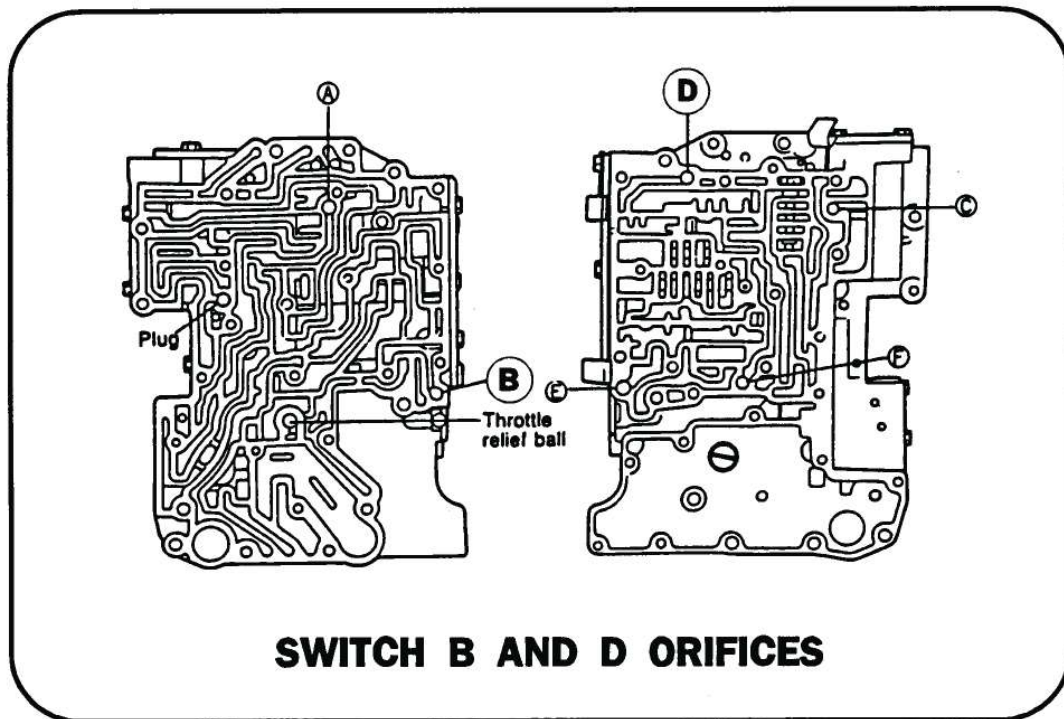

Figure 2.
3. Move orifice **B** (servo release orifice) to the orifice **D** (direct clutch orifice) location and move the orifice **D** to the orifice **B** location. **SEE FIGURE 2.**